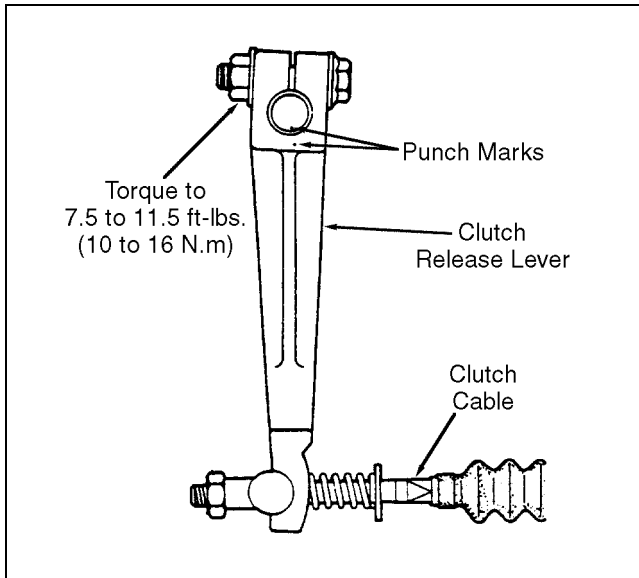

Figure 4D-8. Clutch Release Lever Installation
5. Install the clutch release shaft/fork in the bushings. Install the clutch release lever on the shaft/fork as shown in Figure 4D-8, aligning the two punch marks on the release arm with the shaft/fork.
6. Hook the return spring (Figure 4D-3) onto the clutch release lever.